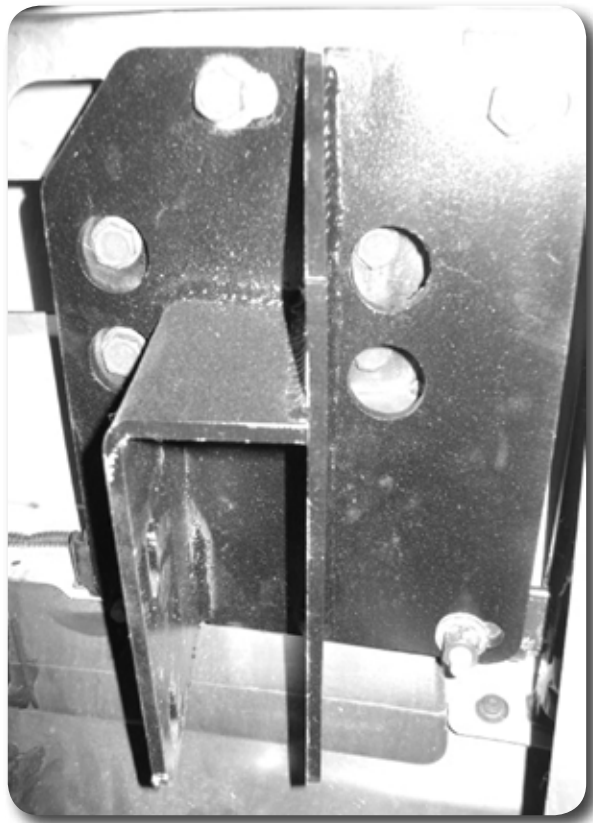

Figure 18a
24. Transfer tow hooks with factory hardware to new brackets, tighten to 55 ft-lbs. Attach new brackets with factory hardware to the bumper. Use spacer washers (1 per bracket) to allow the bumper to sit flush to the bracket. Figures 18a, 18b, 18c Snug, but do NOT tighten at this time.